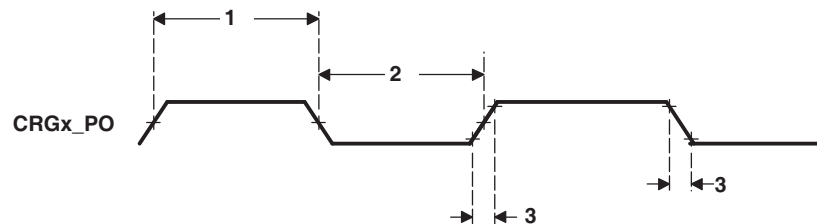

**Figure 7-49. CRGx\_PO Output Timing**
**Table 7-58. Switching Characteristics Over Recommended Operating Conditions for CRGx\_PO Output (see Figure 7-49)**